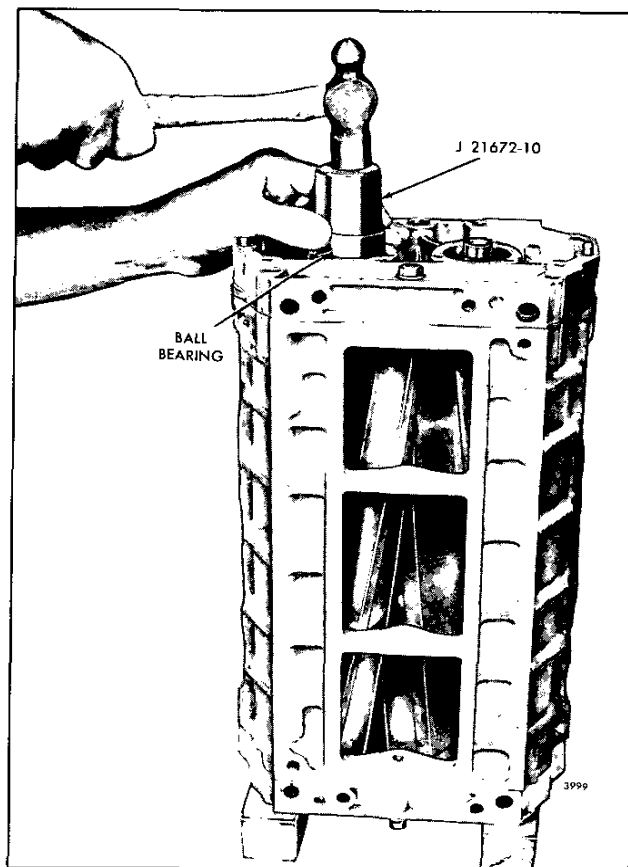

Fig. 16 – Installing Ball Bearings on Rotor Shafts and in Front End Plate (Former Blower)
- b. Place installer J 21672-10 on top of the bearing and tap the bearing straight on the shaft and into the front end plate as shown in Fig. 16.